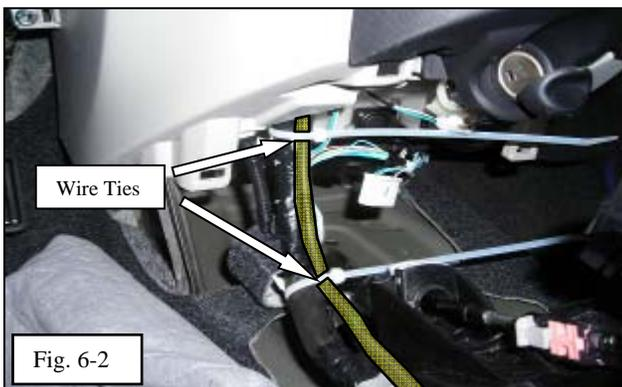

Fig. 6-2
(b) Route the switch harness to the center console area and secure to the OE harness with two (2) wire ties as shown. (Fig. 6-2)